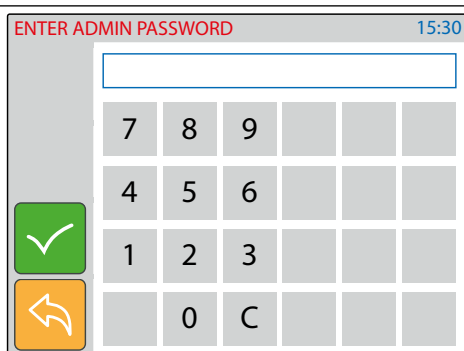

Fig. 19 Enter engineer password
- This setting is password protected (**Fig. 19**) because the adjustment will affect the entire installation.